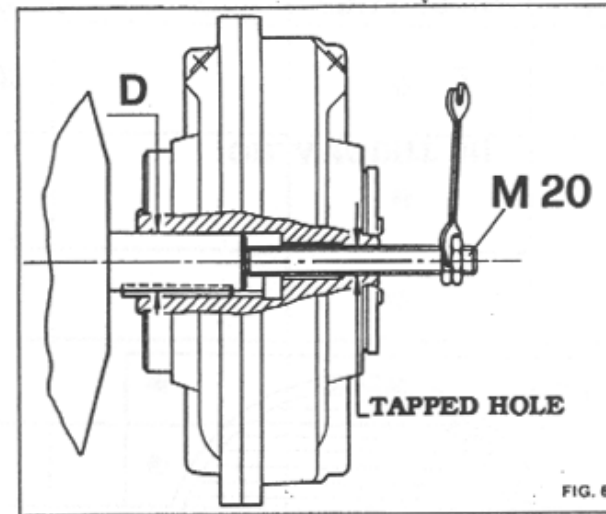

FIG. 6
4.1 Screw threaded bar into tapped hole in end of fluid coupling and proceed as indicated in fig. 6. The threaded bar will push the coupling off the motor shaft.